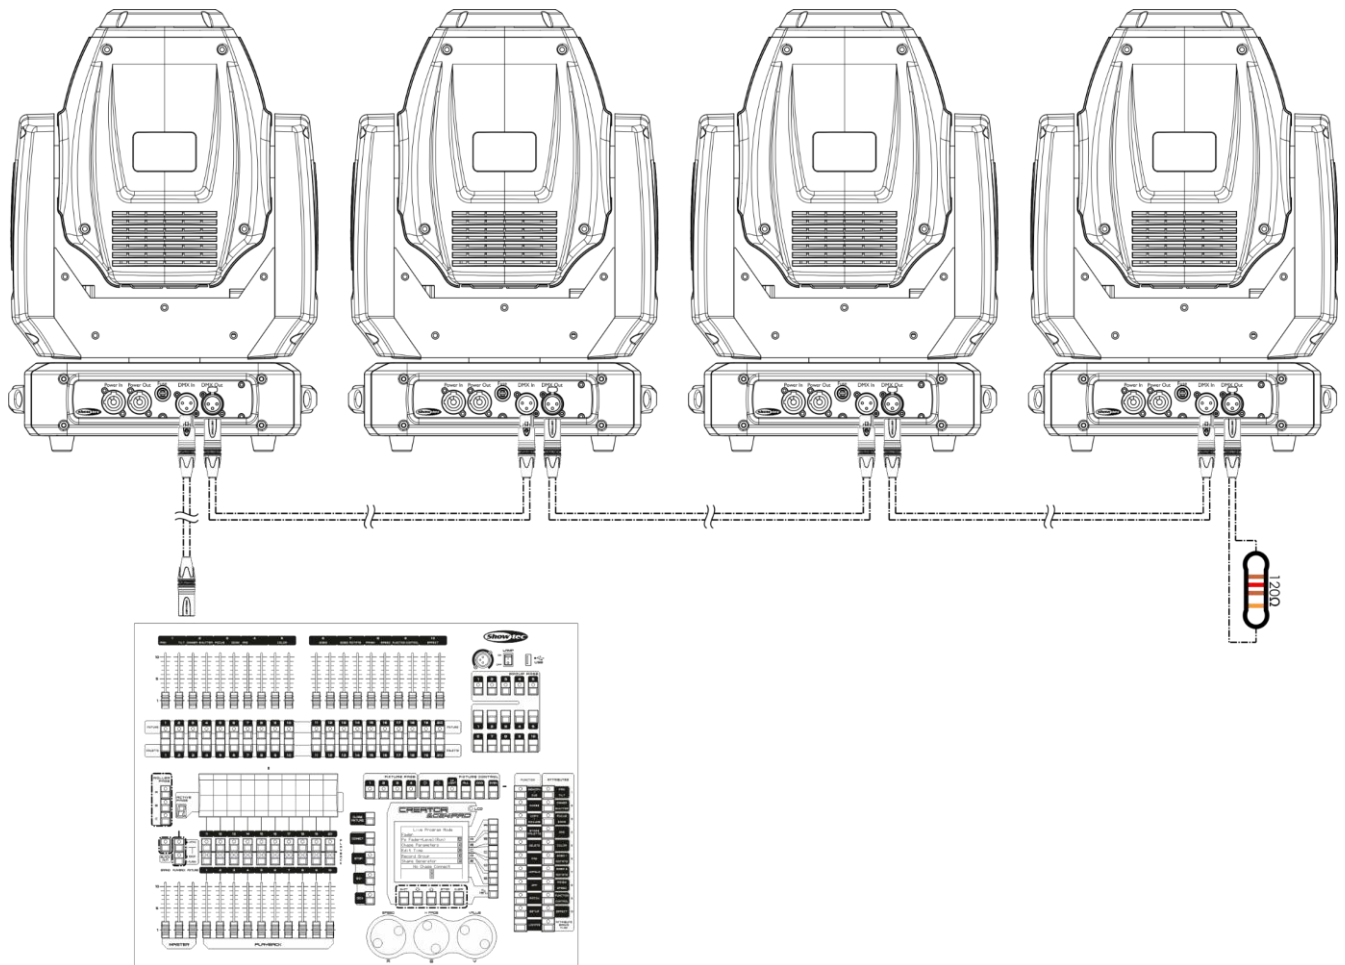

Fig. 04
- 04) Link the units as shown in fig. 04. Connect the first unit's DMX "out" socket with the second unit's "in" socket, using a DMX signal cable. Repeat this process to link the second, third and fourth units.